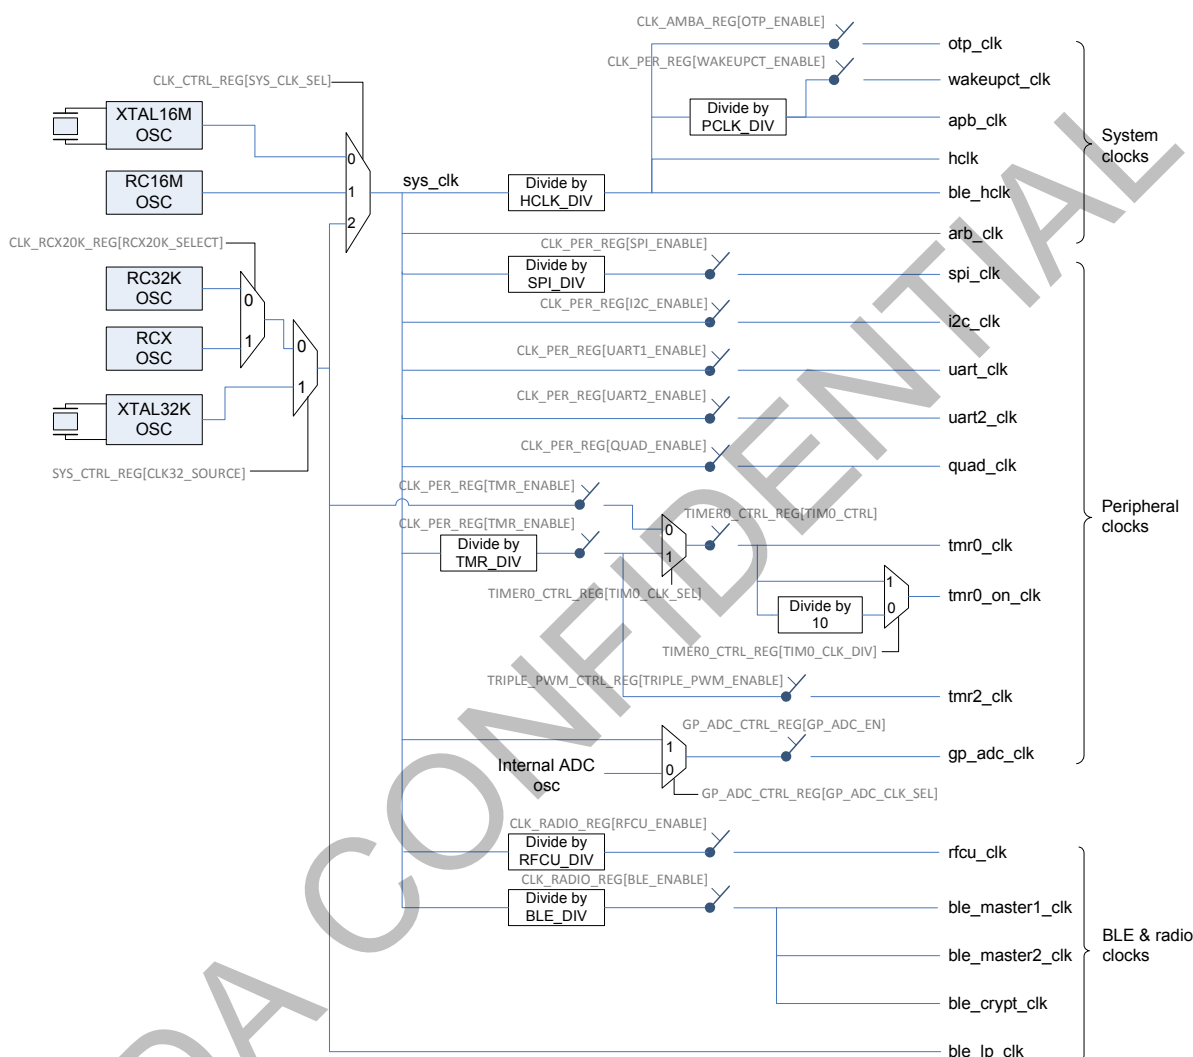

Figure 16: Clock Generation Block Diagram
The clock names depicted in Figure 16 are explained in the following Table:
- When the SPI block is set to Slave mode, then the spi_clk (as depicted in Figure 16) should be at least 4x the clock frequency provided by the external SPI Master. This is required for proper sampling of the data line.